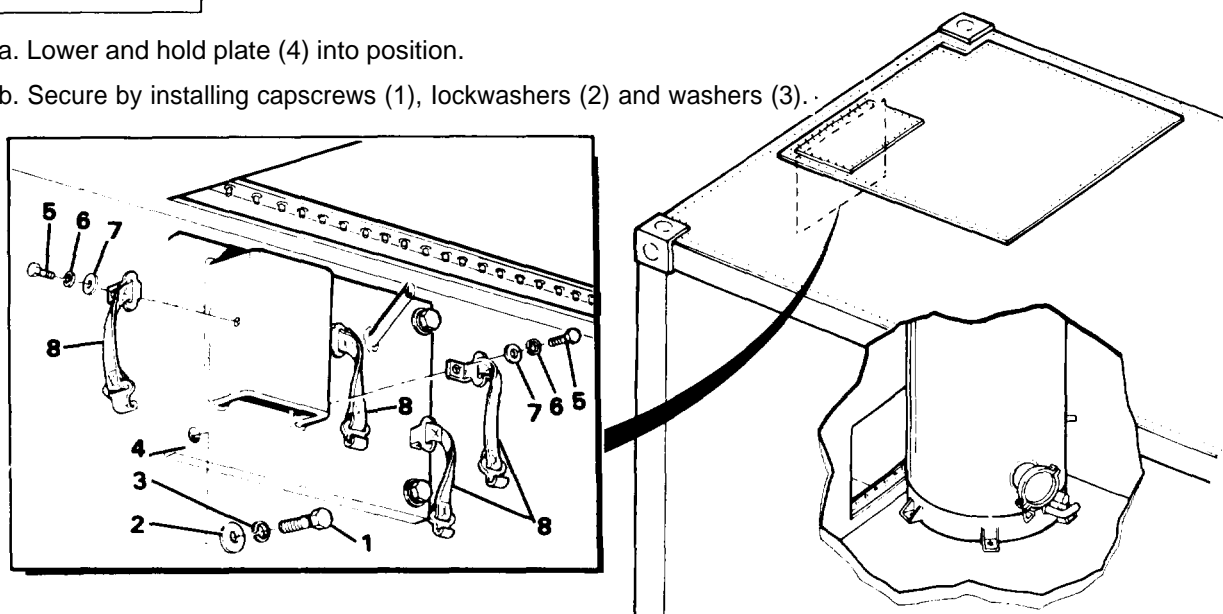

Figure 4-107. Sling Bracket Assembly
- a. Remove four capscrews (1, Figure 4-107), lockwashers (2) and washers (3).
b. Remove mounting plate (4).